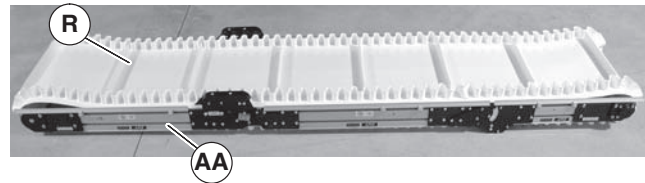

Figure 10
- Slide belt (Figure 10, item R) over assembled conveyor sections (AA).